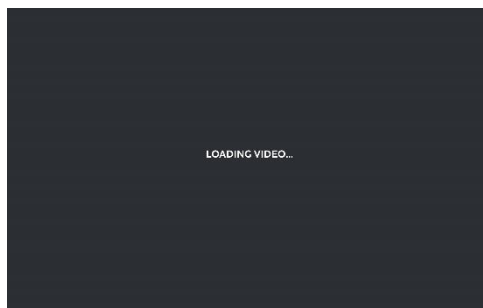

Fig. 1
1. Turn on the R3 SCRUB and note the 'LOADING VIDEO' screen on the LCD (Fig. 1).